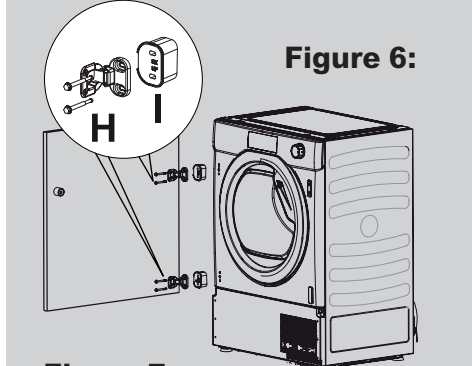

Figure 6:
- Mount the furniture door to the front of the dryer using the hinges. Place the spacers (I) under the hinges (I) (**figure 6**) and then fix in position with screw (H).